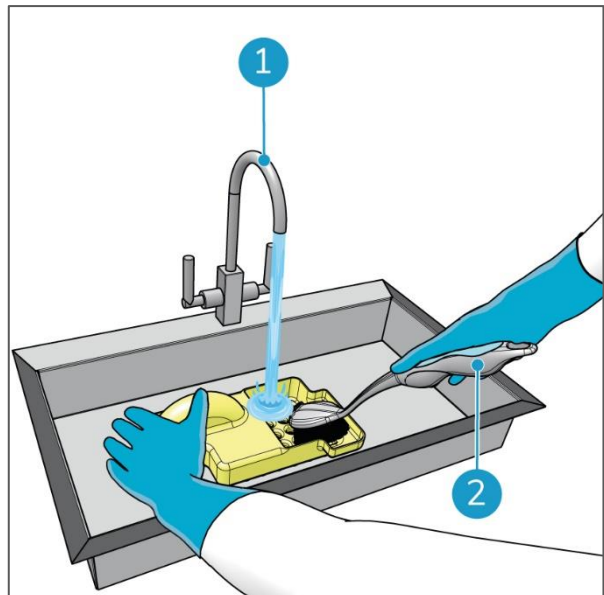

Figure 58
2. Remove the debris by hand and clean it with tap water and a brush (Figure 58, pos 2) above a sink.
3. Rinse it with tap water (Figure 58, pos 1).